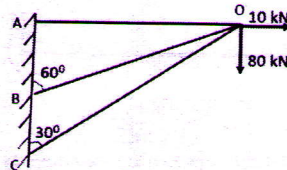

Figure 7
- 4 a) Find the member forces in truss shown in Figure 7 by flexibility matrix method (10)